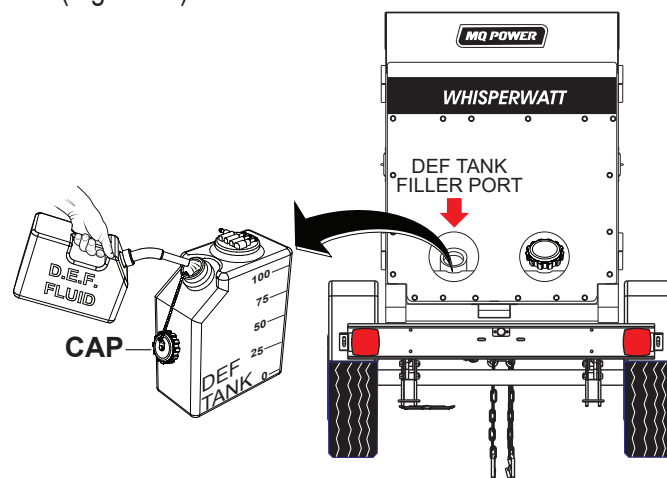

Figure 38. DEF Tank Filling
2. Remove the cap from the DEF tank filler port (Figure 38).